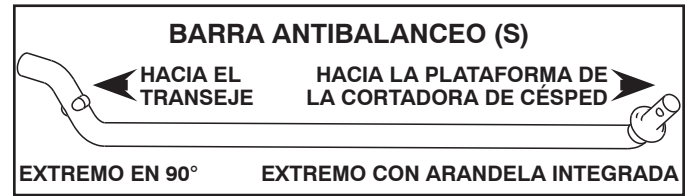

Fig. 27
## 5. SI LA TIENE, INSTALE LA BARRA ANTIBALANCEO (S) (Vea Fig. 27 - 29)